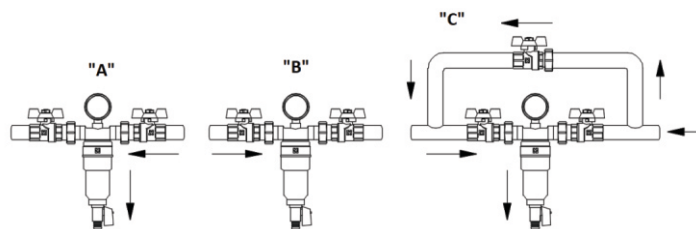

Fig. 1
- Shut-off valves must be installed before and after the filter to make it possible to remove the filter elements (see Fig. 1). For greater efficiency of filter washing (backwashing), it is preferable to have a bypass section with a tap (bypass) (see Fig. 1 "C").
"A" - Close the outlet valve. Open the drain tap and drain the sediment into the sewer together with a certain amount of network water. In this case, the particles remaining on the mesh are mainly not removed from the filter. Remove only the sludge settling on the bottom of the flask (Fig. 1)
"B" - Make sure that all water dispensers are closed. Close the inlet and outlet valves of the filter. Open the drain valve of the filter, this will drop the pressure in the flask, and the water from the flask will be completely removed. Open the outlet valve of the filter. In this case, the residual pressure in the pipelines after the filter will to some extent knock down the particles stuck to the mesh (Fig. 1).